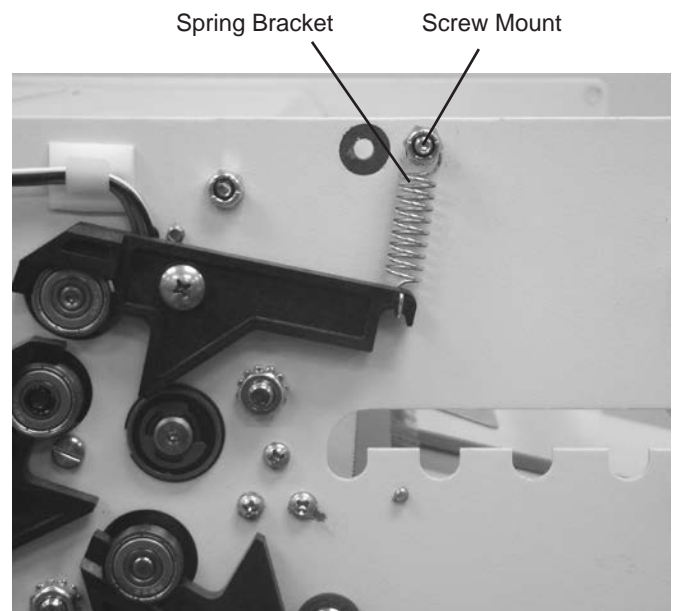

Fig. 22b
6. Attach the spring directly to the screw mount (Fig. 22b) and replace lock nut.